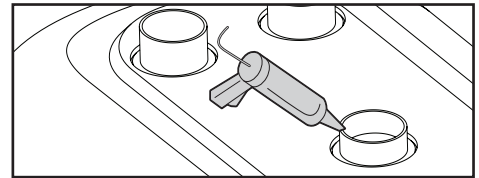

FIGURE 3. Apply construction adhesive to bathtub feet. (Above floor rough-in feet shown)
- Apply construction adhesive to all feet and install bathtub into alcove (Fig 3).